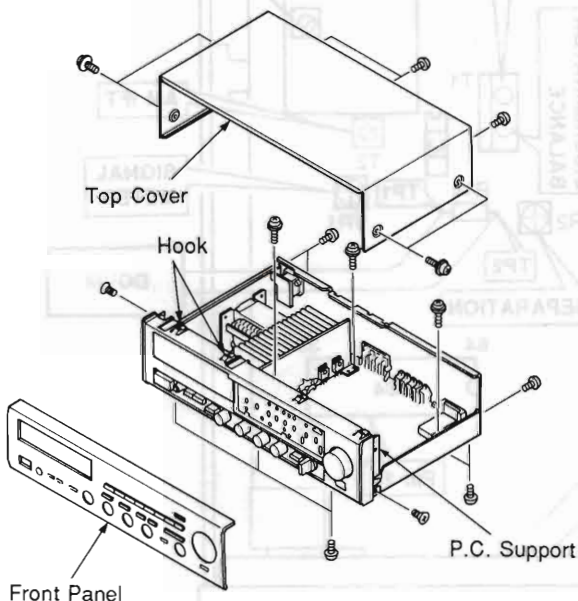

Fig. 1
Remove 7 screws ( ① ) in Fig. 1 and slide the Top Cover back and up.
Remove 3 screws ( ② ) and 4 hooks in Fig. 1, and pull the Front Panel forward.
**3. Check of Main Circuit Board (1) and replacement of parts.**
- a. Remove 12 screws ( ③ ) in Fig. 1.